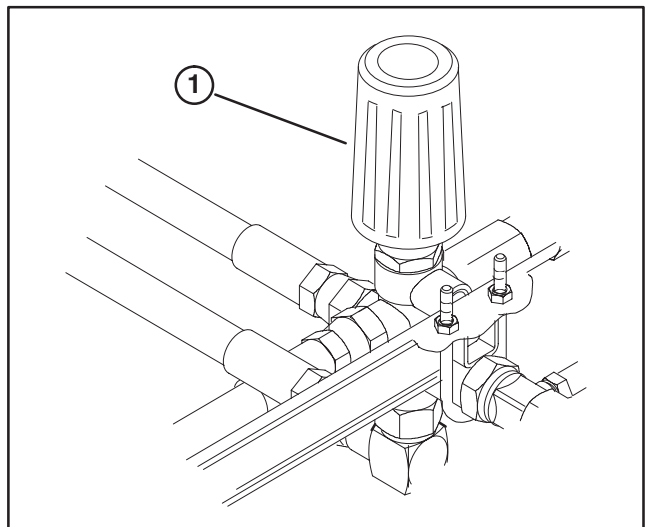

Figure 5
Pressure Regulator / Unloader Valve (Fig. 5) – Adjusts system operating water pressure.
14. Adjust pressure regulator / unloader valve (Fig. 5) to appropriate operating pressure for work to be done.